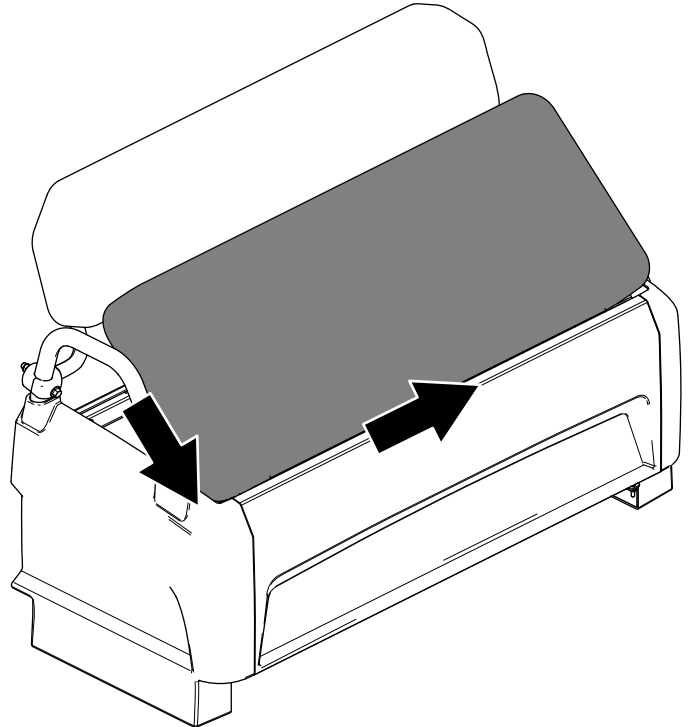

**Figure 35**
2. Slide the cushion to the side, out of the pins, and lift the cushion upward (Figure 35).